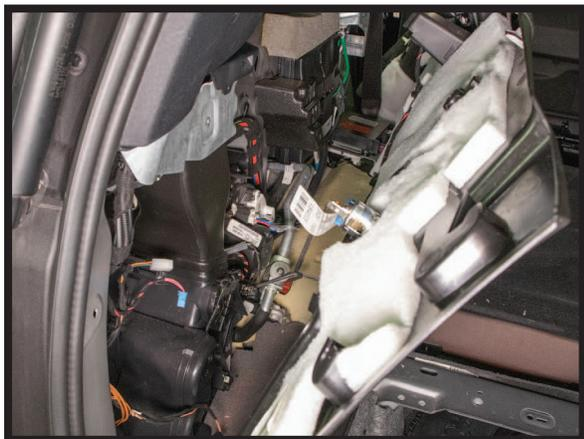

FIGURE 6
7. IN THE TRUNK, REMOVE ALL APPLICABLE SIDE TRIM PANELS TO GAIN ACCESS TO THE UPPER SHOCK MOUNTING FASTENERS (FIGURES 6, 7)